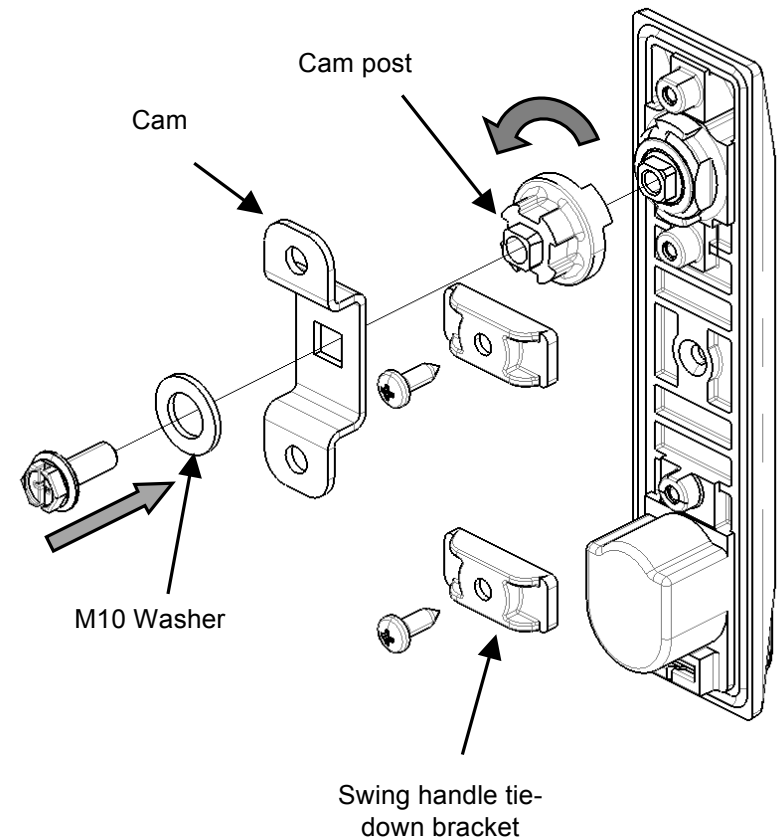

Fig. 3
7. To change the direction, remove the cam, rotate the cam post, and reattach (Fig. 3).